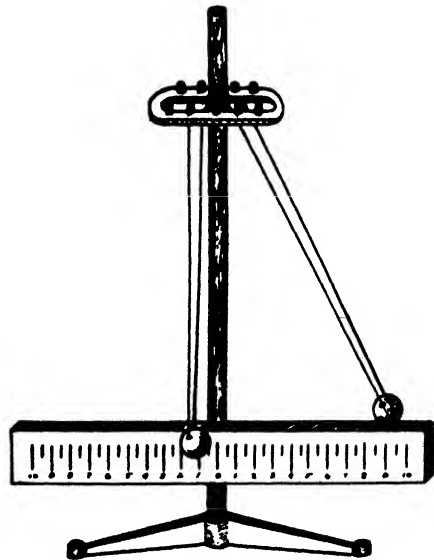

FIG. 232. MOMENTUM APPARATUS.
a) Suspend two balls of hard wood or metal of equal size and weight (Fig. 232) so that contact is made between them. Draw one ball aside a few inches and let it swing so that it will strike the second one squarely. Note the action of the two balls. What happens to the first ball?